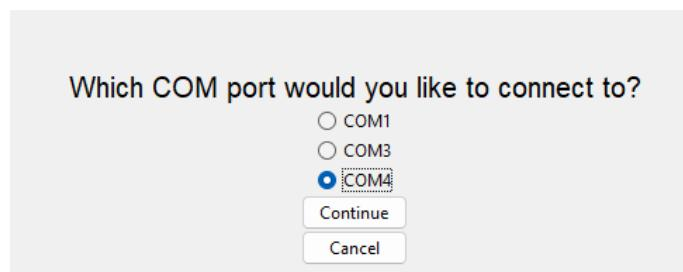

Figure 3.4 - COM Ports Screen (TS)
2: From the home page, click “Run Test” or “Store Data” The screen in figure 3.4 will be displayed. Choose the COM port the prototype is using that is connected to the device. See instructions below for further details (TS).